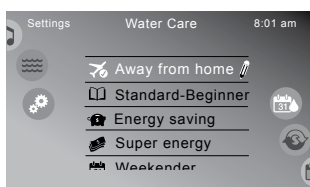

Figure 12.1b
- ✎ = **Pencil Icon:** This icon will appear next to the water care mode that has been programmed. Tap to enter that mode to make changes, Figure 12.1b.